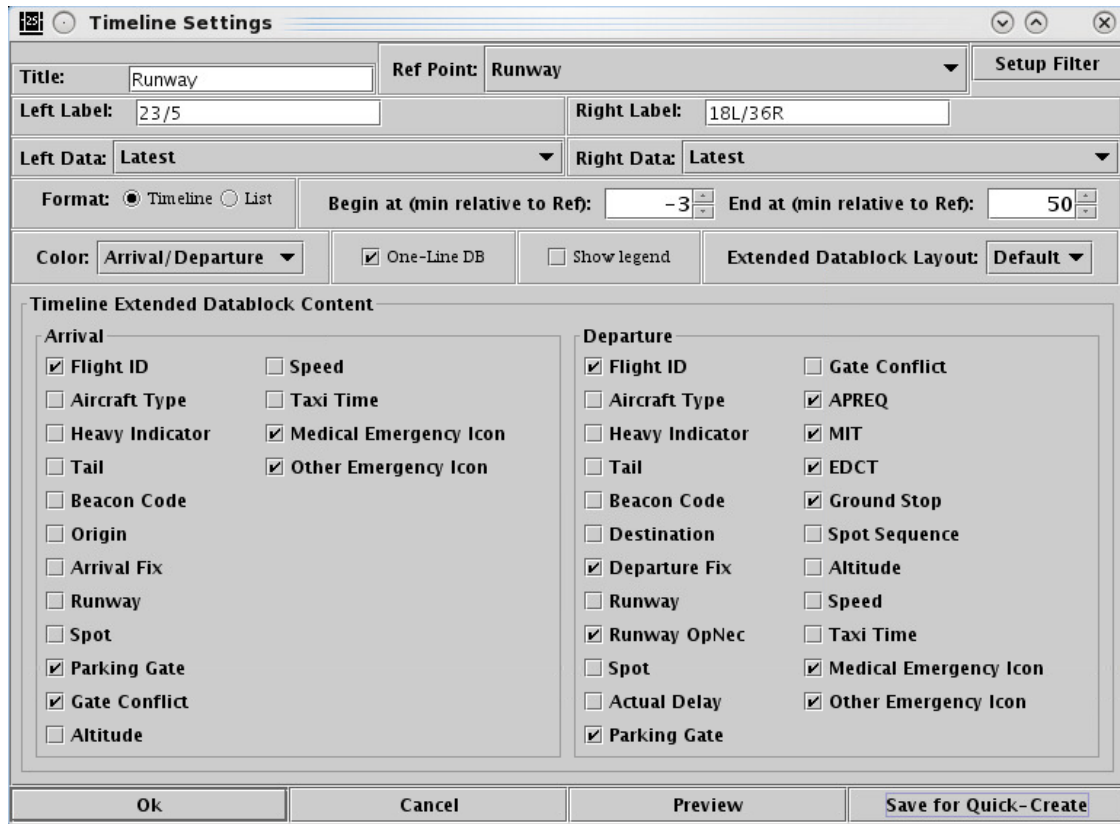

Figure 8. Timeline Settings window for the STBO Client Timeline.
Using the right mouse click menu on the “Timeline Settings” options will open the Timeline Settings window (Figure 8). Use this window to alter the Timeline. Once the desired changes are input into the Timeline Settings window, click the “Ok” button at the bottom of the window to apply the changes and close the Timeline Settings window. To exit the window without applying changes, click the "Cancel" button at the bottom of the window; this must be done *without* clicking “Ok” in order to prevent changes to the current Timeline configuration. You may also save preferred Timeline settings, see section 2.1.2.11 to learn about “Save for Quick Create” instructions. This option will save the preferred timeline settings and can be accessed later by the saved file name.
**Step 1:** Edit the content of the "Title:" text box (Figure 8).
**Step 1:** Edit the content of the "Left Label:" text box (Figure 8).
**Step 1:** Edit the content of the "Right Label:" text box (Figure 8).
**Step 1:** To add filters to the Timeline, click on the "Setup Filter" button (Figure 8). The Filters window will open (Figure 11).
**Step 8:** Click the "Ok" button on the Timeline Settings window (Figure 8). The Timeline will now only display flights that match the filter.
**Step 1:** To remove filters to the Timeline, click on the "Setup Filter" button (Figure 8). The Filters window will open (Figure 11).
**Step 6:** Click the "Ok" button on the Timeline Settings window (Figure 8). The Timeline will update to display flights that match the filter.